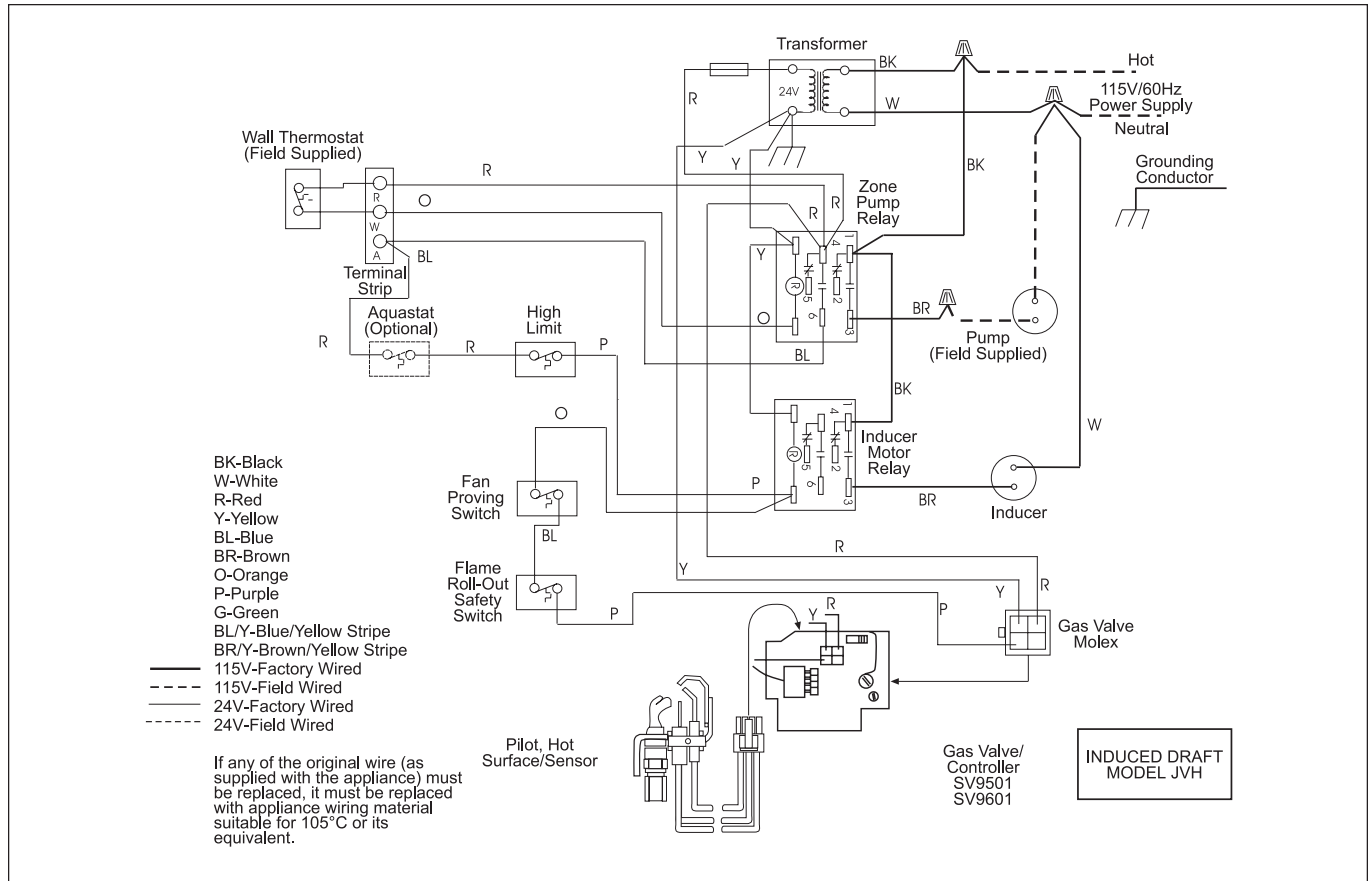

Figure 10. Wiring Diagram, JVH.
3. Follow the schematics in Figures 10 & 11. Remove the wire nut from the two black wires, and connect the hot lead from the 115V power supply, and the neutral lead to the white wires and the neutral side of the pump. The brown wire attaches to the hot side of the pump.